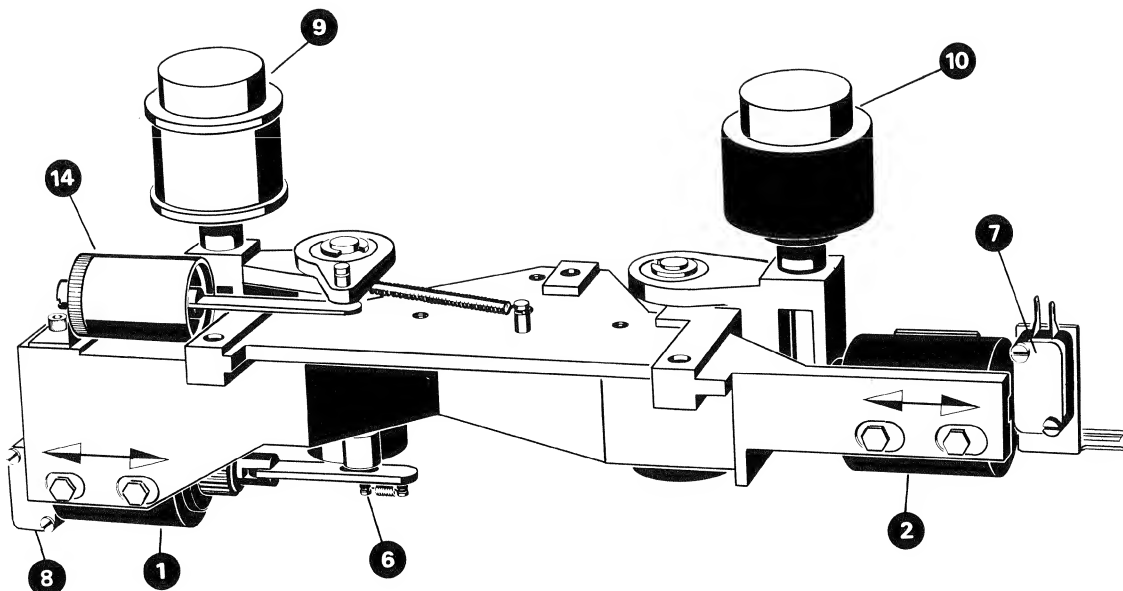

Fig. 2.4.-4
- Correct operation of the brake can be checked by turning the reel turntable (5) slightly back and forth. The two brake levers should then alternately strike the end stop and the lift pin (a clicking sound).
- Braking force adjustment in take-up direction (light braking): Place empty reel with 2 ... 3 m of tape or string on turntable in opposite direction to normal operating position. Attach spring balance (0 ... 500 g) to end of tape and pull steadily in order to measure. The braking force shown in table 2.4.—3 is obtained by repositioning the spring (6).
- Braking force adjustment in supply direction (heavy braking): Place empty reel with 2 ... 3 m of tape or string on turntable in normal operating position. Attach spring balance (0 ... 500 g) to end of tape and pull steadily in order to measure. The braking force shown in table 2.4.—3 is set by means of screw (7). The hook at the end of the spring must be horizontal when the spring tension has been adjusted, see fig. 2.4.—1.